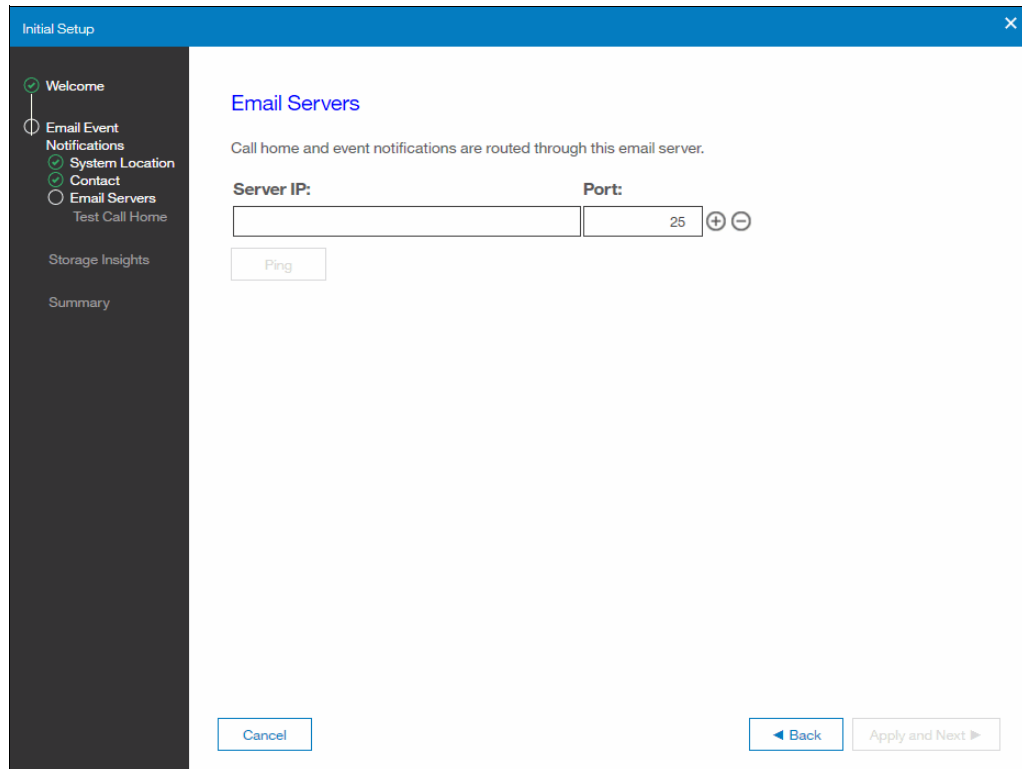

Figure 6-66 Email servers screen
14. The Email Servers screen is displayed (Figure 6-66).